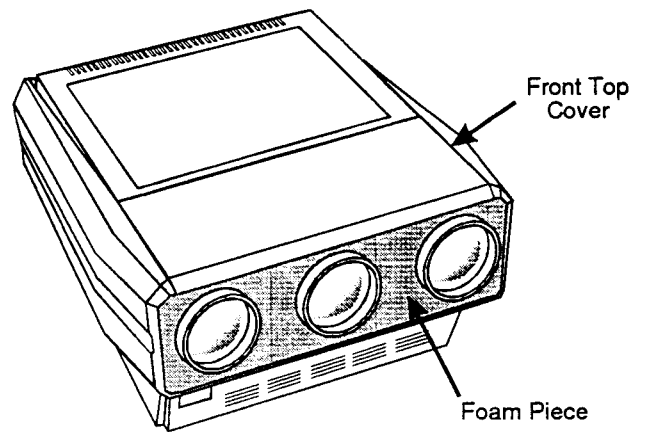
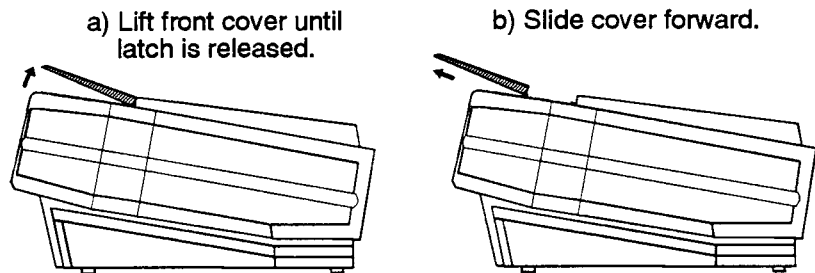

Figure 2-19. Front Top Cover
Figure 2-20. Front Top Cover Removal
Step 2 ► Locate the front top cover of the projector. See Figure 2-19. Next, position your hands above the red and blue lenses then grasp the cover. Gently lift it until it is released from its securing latch. Slide the cover away from the projector as shown in Figure 2-20 below.